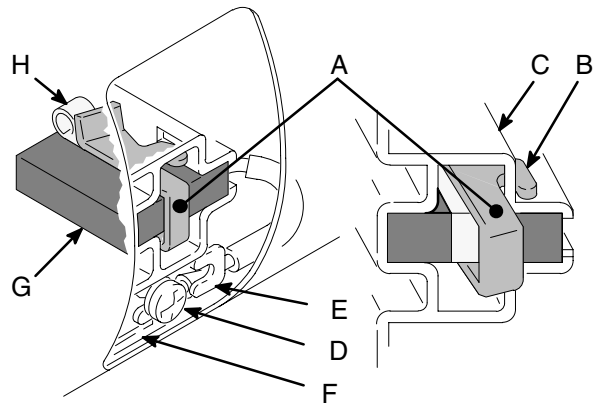

Fig. 5
5. Fig. 5. Push in 110816 spring clip (A) to release hooks (B) from brush holder (C). Pull out spring clip.
6. Fig. 5. Loosen terminal screw (D). Pull brush lead (E) away, leaving motor lead (F) in place. Remove brush (G) and spring (H).
9. Fig. 5. Slide brush lead (E) under washer of terminal screw (D) and tighten screw. Be sure motor lead (F) is connected at terminal screw.